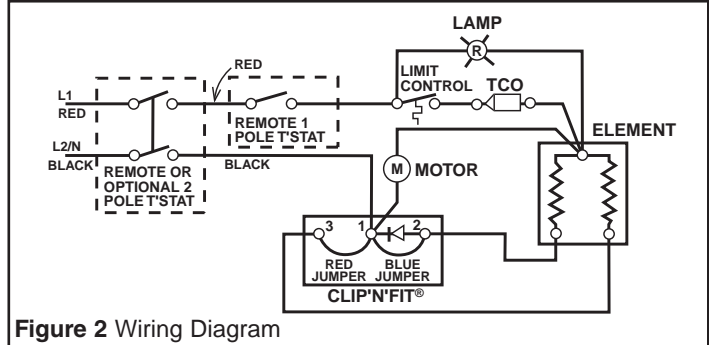

Figure 2 Wiring Diagram
1. Following wiring diagram (Figure 2) connect supply wires to heater lead-wires in back box using appropriate wire connectors.